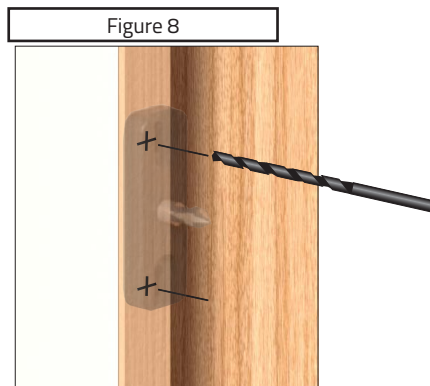

Figure 8
12. With a pencil, mark two holes on the door through the latch. Drill pilot holes for mounting the latch to the jamb using a $\frac{1}{8}$ " bit, $\frac{1}{2}$ " deep (*see figure 8*).